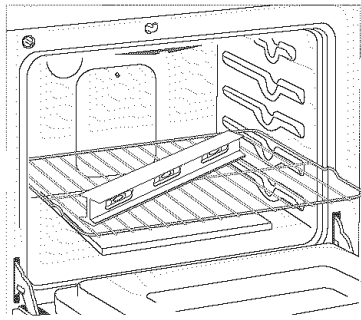

Figure 9
- Check if the range is level by installing an oven rack in the center of the oven and placing a level on the rack (Figure 9).
- Place a level on the rack (see Figure 9). Take 2 readings with the level placed diagonally in one direction and then the other. Level the range, if necessary, by adjusting the 4 leg levelers with a wrench (see Figure 18).